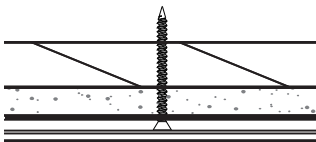

Fig. 7
- o If plywood backer is 3/4" or thicker, use either the included #10 counter-sunk wood screws as shown in **Figure 7** or the included Snaptoggle® hardware.